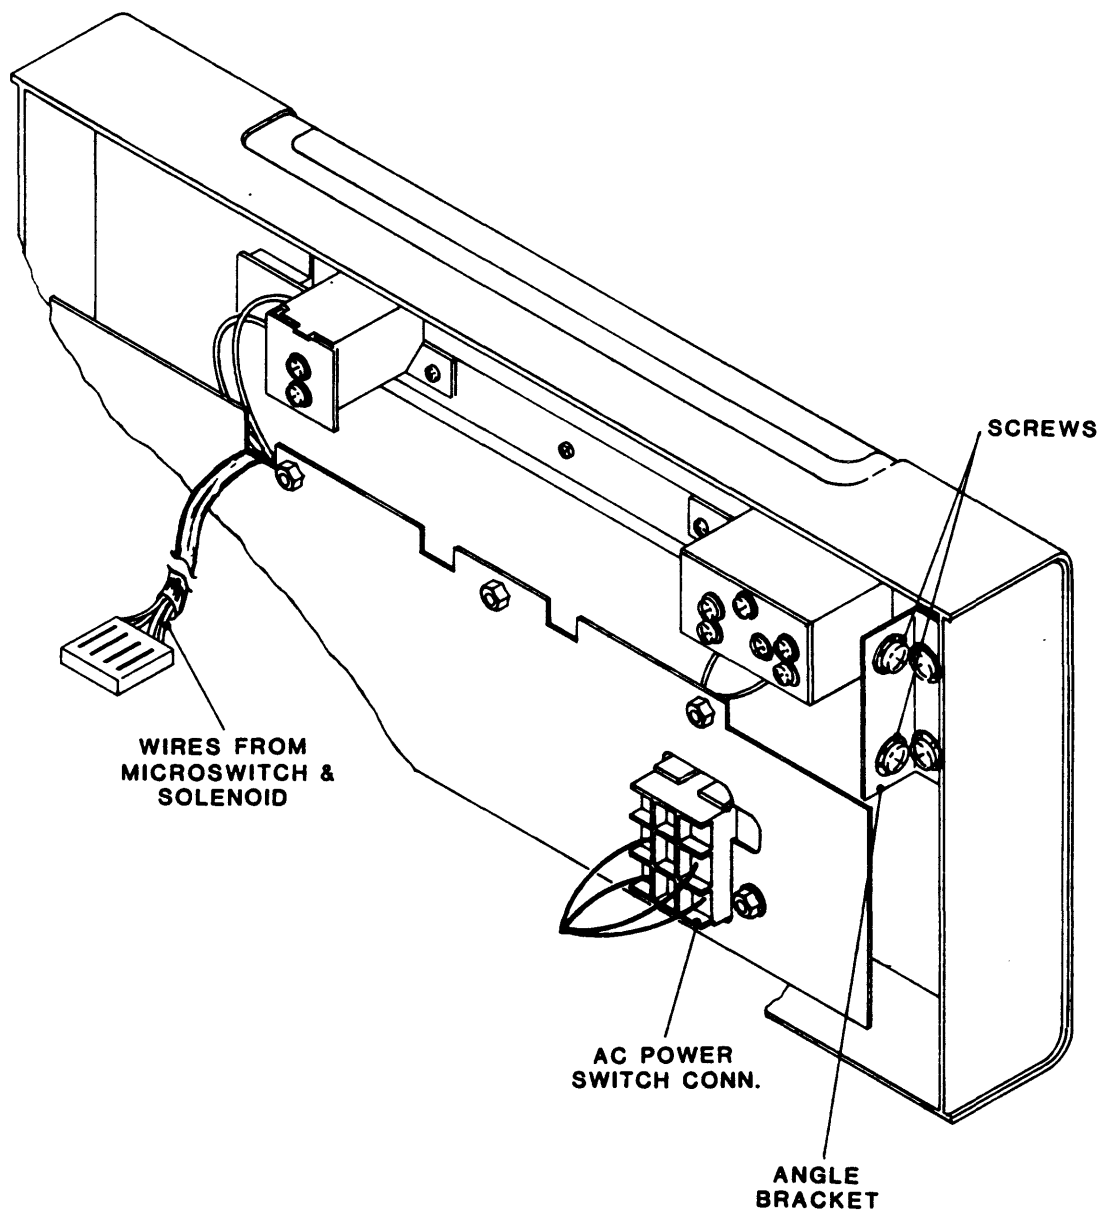

Figure 4-19 Panel Assembly
4.3.22 PANEL ASSEMBLY (Figure 4-19)